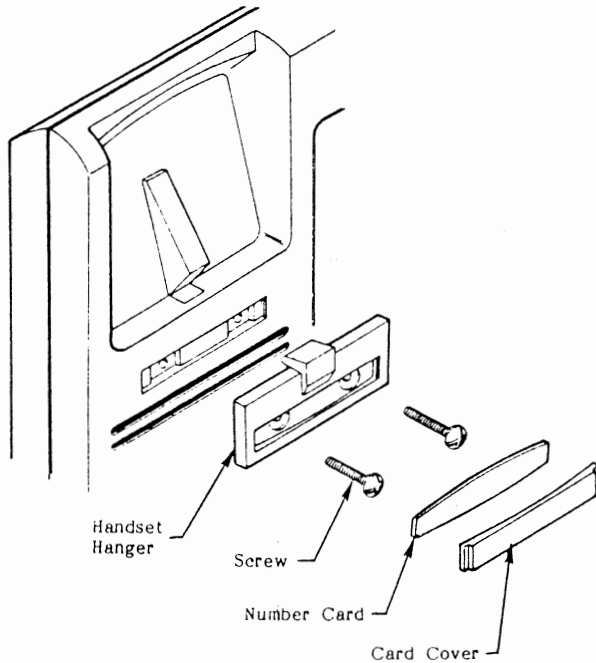

FIGURE 24
08.21 Refer to Figure 24, the op-